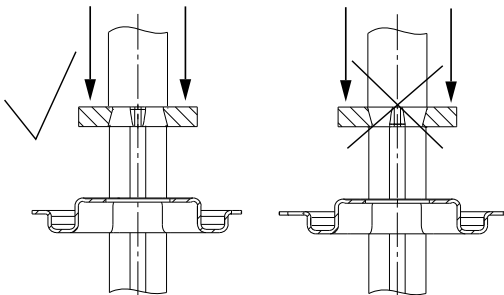

Fig. 12 Fitting the stop ring
5. Fit O-ring (pos. 107) into the rotating shaft seal part (pos. 104). See section 3. *Tightening torques and lubricants.*
6. Fit retainer (pos. 111) and stop ring (pos. 111a). See fig. 12.